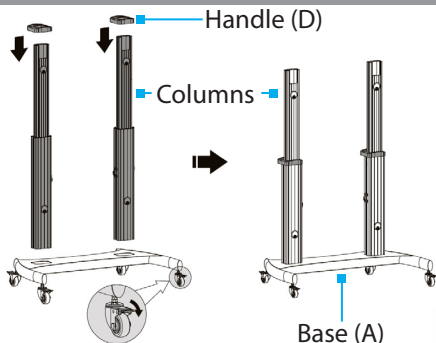

Figure 3
- Engage the **Brake** on each one of the four **Casters (B)** before proceeding to step 7. (Figure 3)
- Slide the **Left (E)** and **Right Columns (F)** into their respective receptacles, located in the **Base (A)**.